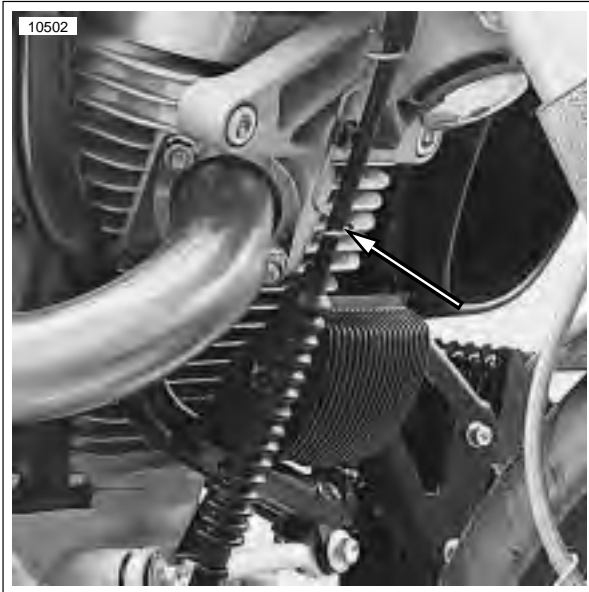

Figure 3-9. Clutch Cable Wire form Retainer
10. See Figure 3-9. Pull clutch cable back up into the proper position.